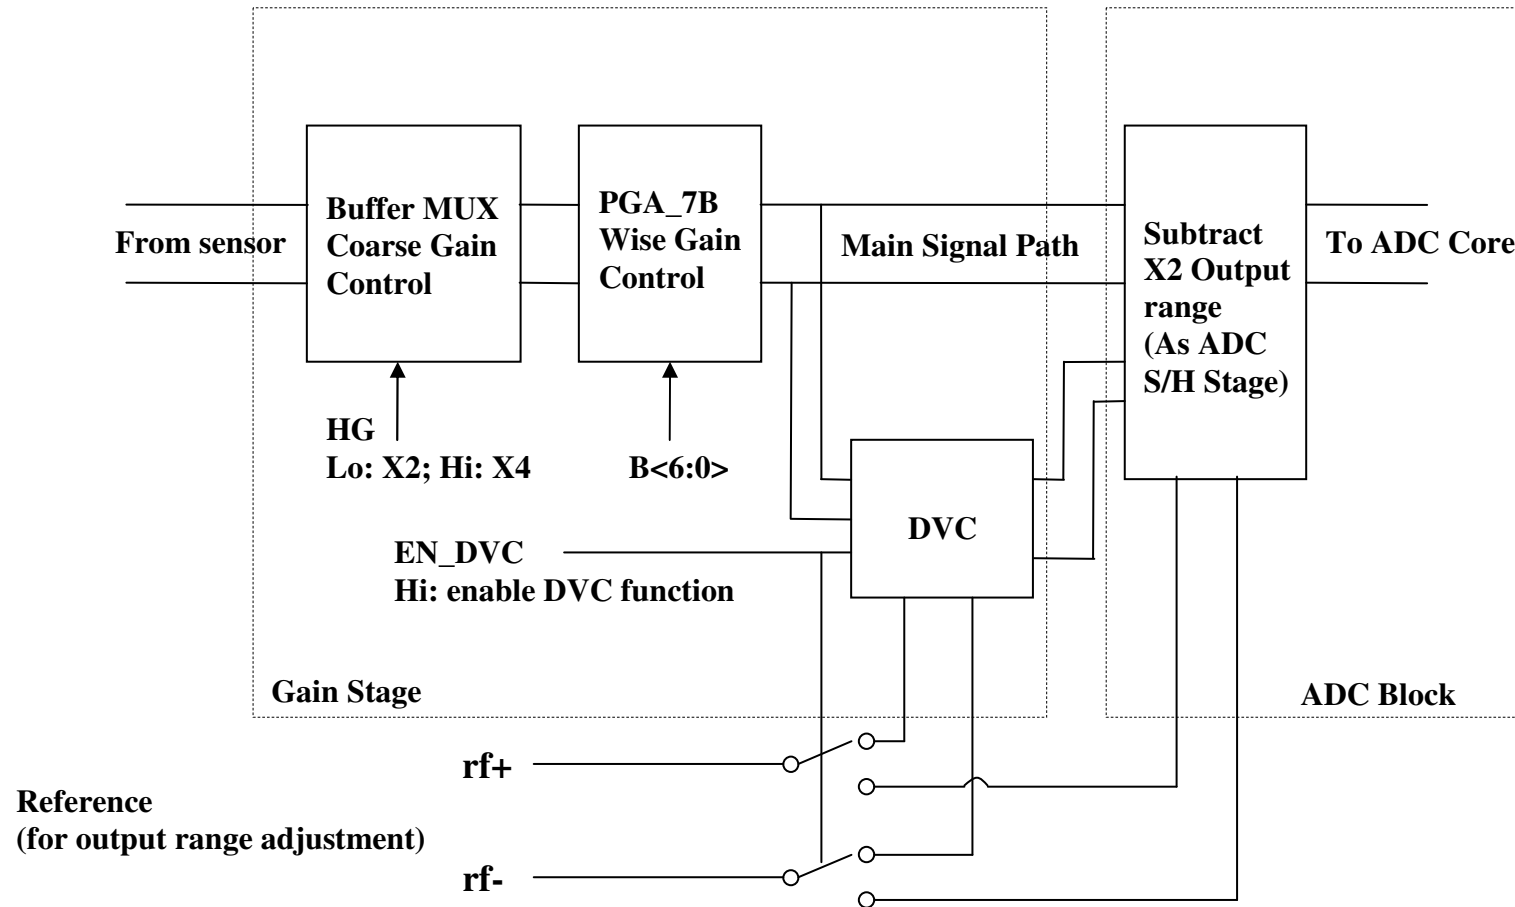

Figure 11. Gain control stage of the C650 device
Figure 11 shows the block diagram of the gain control stage. It consists of buffer mux & coarse gain control block, 7-bit programmable gain amplifier (PGA) control block, dark voltage cancellation (DVC) block, and subtract (x2) block. The coarse gain control is used to adjust the global gain of the device while 7-bit PGA is used to compensate the row wise gain. One bit (HG) of the input pin is used to control the coarse gain of x 1 and x 2. The bit word of PGA is controlled through a built-in I²C interface. This device has an option to select either with dark voltage cancellation or without dark voltage cancellation. The functionality of each block is explained as follows.